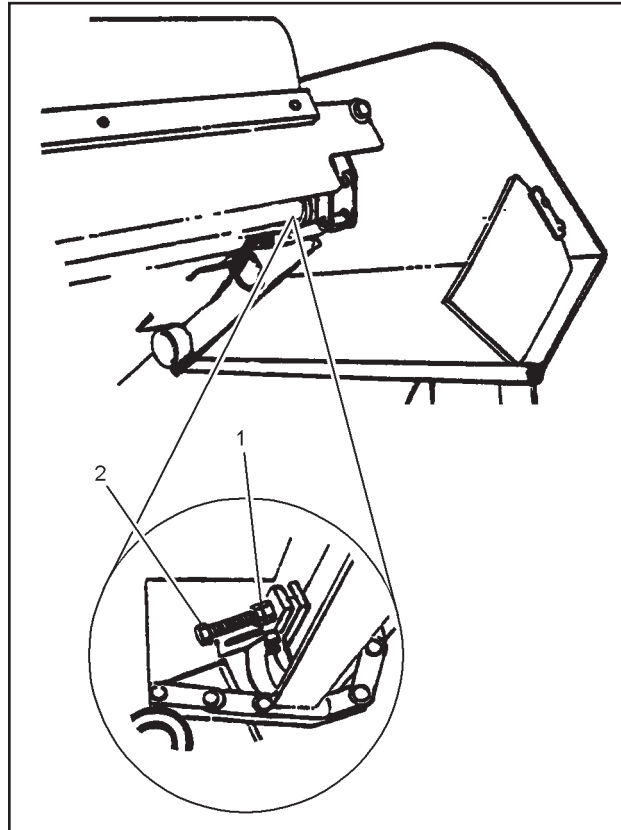

FIGURE 4-7. ADJUSTING BOLT
3. Loosen the locknut (see Figure 4-7, item 1) and bolt holding the Adjustment Roller assembly.
4. Turn adjustment bolts (item 2) alternately on both sides of the conveyor. The pressure on the chain will be noticeable as the bolts are tightened. (Turn one bolt one half turn, then the other bolt one half turn. Continue alternating tightening until chains are tight).
5. After the conveyor chain tension is set, tighten lockout (item 1) and bolt holding assembly.
6. If the adjustment bolts (item 2) have been run out, it will be necessary to remove a link in the conveyor chains and add a half link. This will bring the adjustment bolts back to full travel.